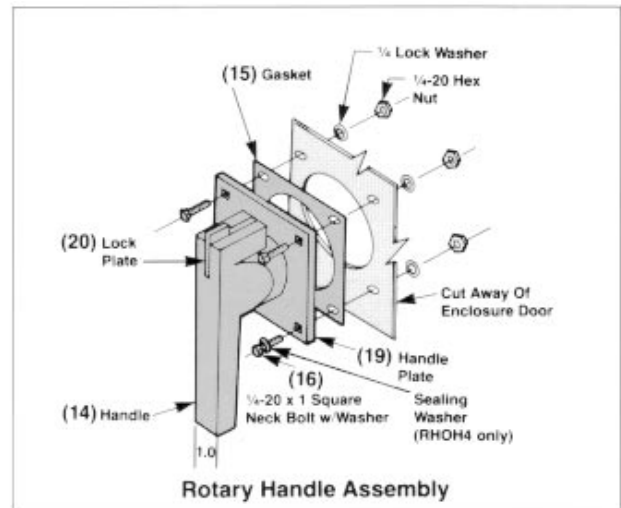

Figure 3
- Place handle into OFF position. Attach the handle (14) and gasket (15) to the enclosure door with the four square neck bolts (16), lock washers and nuts supplied. Tighten nuts to 75 in. lb. (Figure 3).
To open the enclosure door when the breaker is in the ON position, rotate the screw slot (18) on the handle plate (19) counterclockwise. This procedure will defeat the interlock (Figure 3).